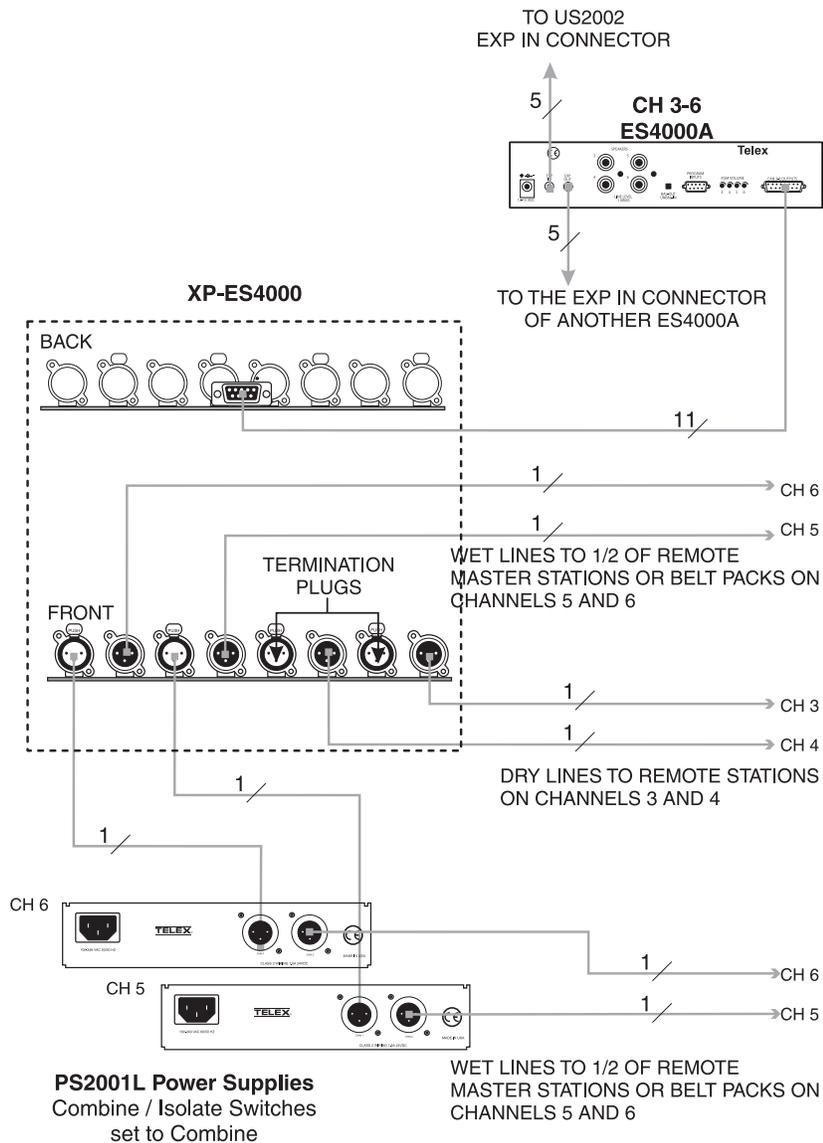
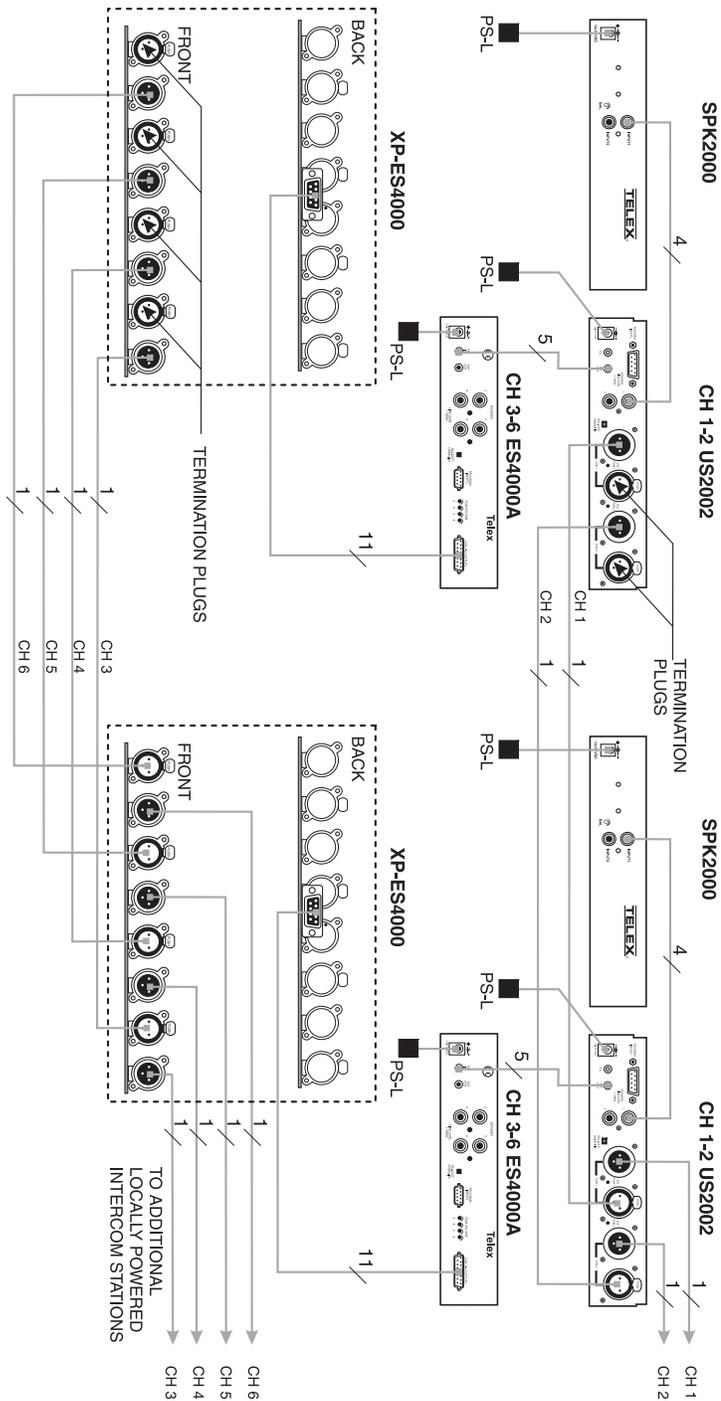

FIGURE 12. System using the termination plugs supplied with the ES4000A for mixed wet- and dry-line operation.
FIGURE 13. Termination plugs used for all dry-line connection.
- Termination Plugs: The ES4000A is supplied with 2 termination plugs for special applications where 1 or more channels are unpowered. Figure 12 on page 20 and Figure 13 on page 21 show example of how to use these plugs. If all of your incoming channels will be powered from an SPS2001, PS2001L, or PS4001 power supply, the termination plugs are not needed.